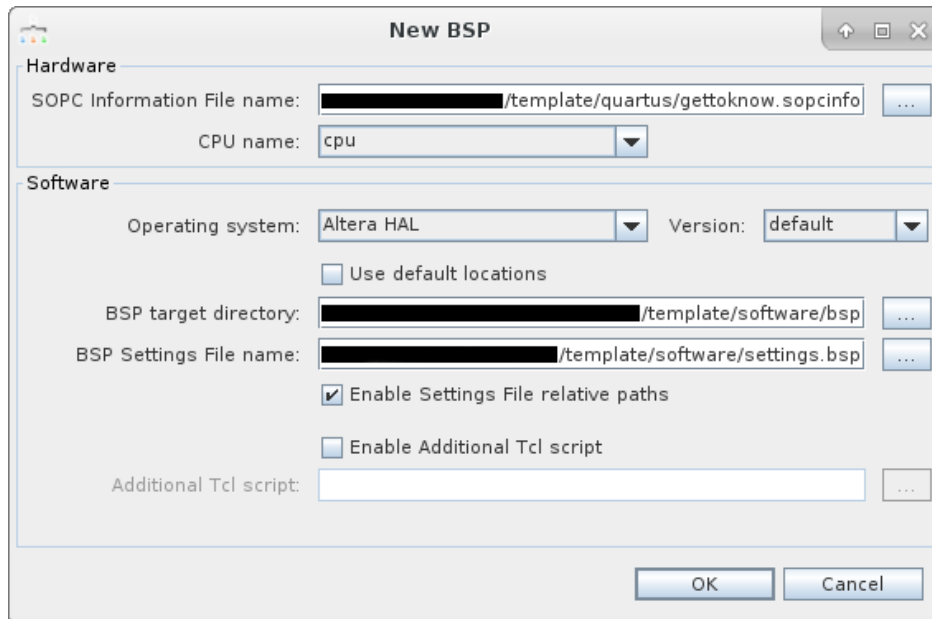

Figure 2.1: Nios II BSP Editor: New BSP
- Configure the paths (see Figure 2.1) and click OK: